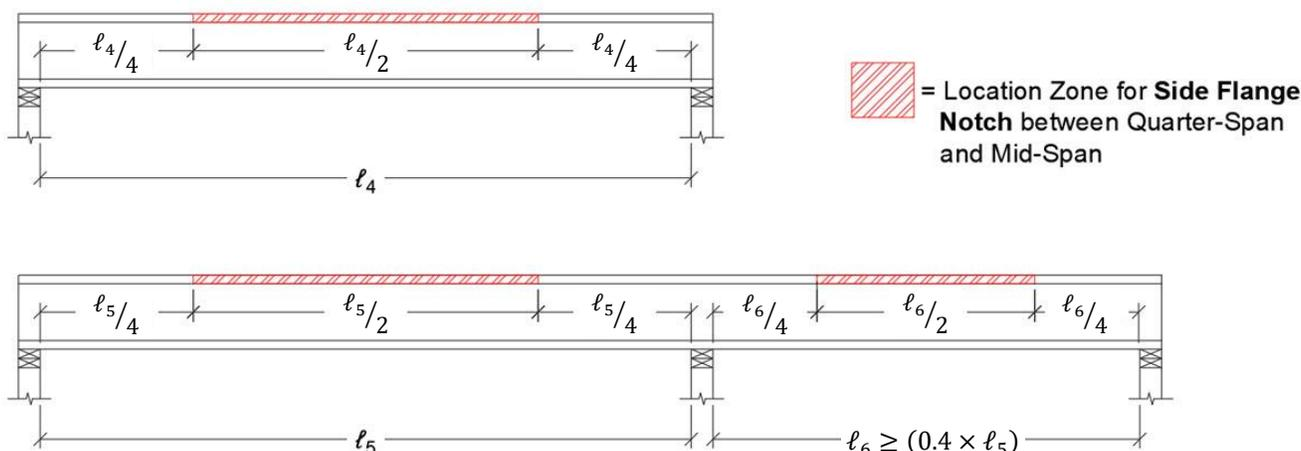

Figure 5: Location zones for a Side Flange Notch in simple and continuous TJI® joists (quarter-span to mid-span).
- See Figure 5 above.
[1] Confirm accordance with Conditions and Limitations on Page 1 and reference Figure 5, How to Use These Tables, and General Table Notes on Page 7.